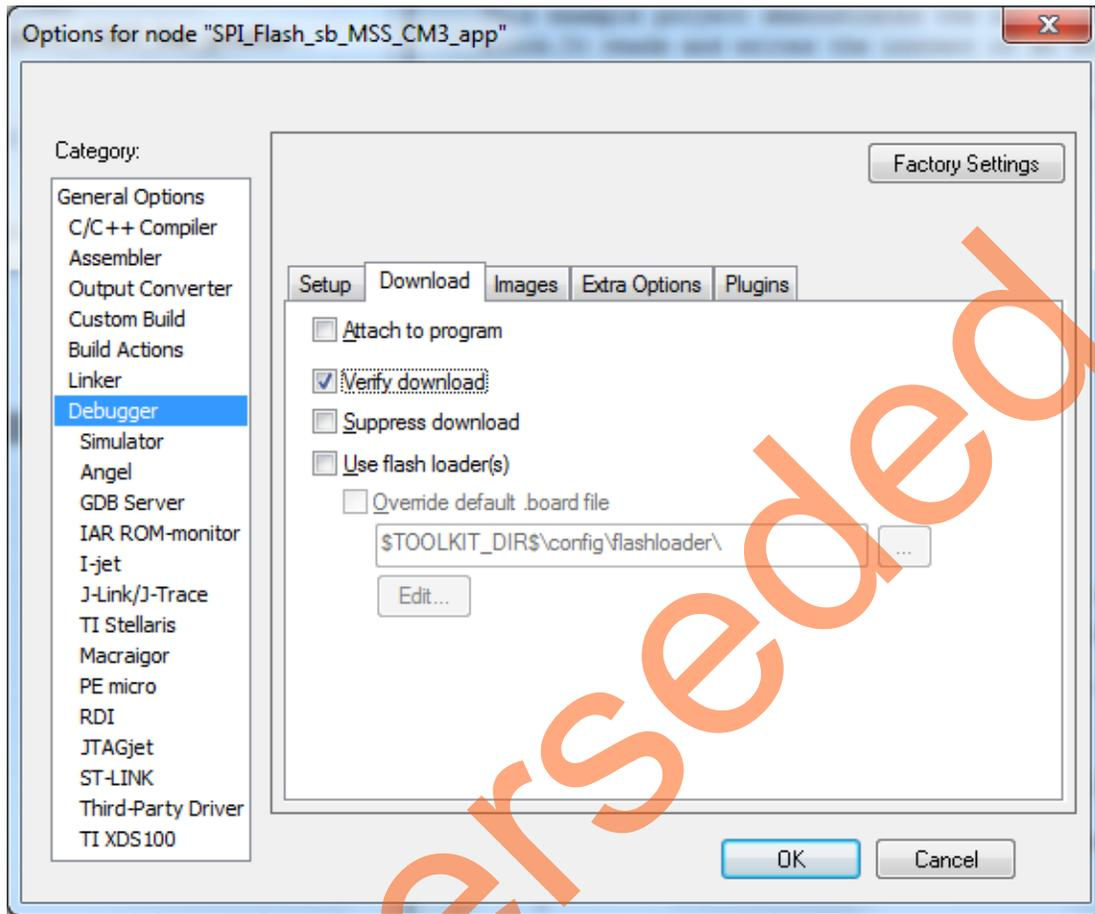

Figure 30 • IAR Debugger Options - Download
13. Click **Download** tab and select the **Verify download** check box, as shown in Figure 30.